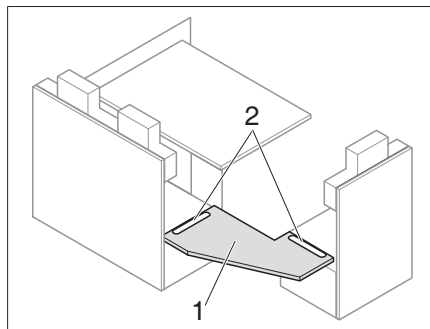
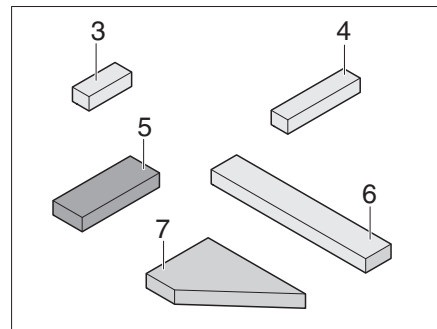
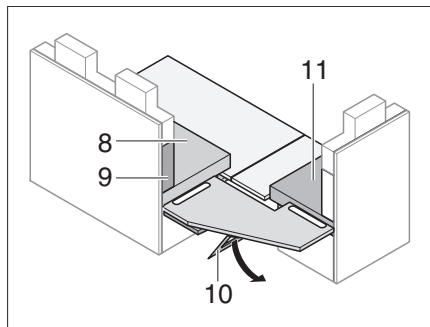
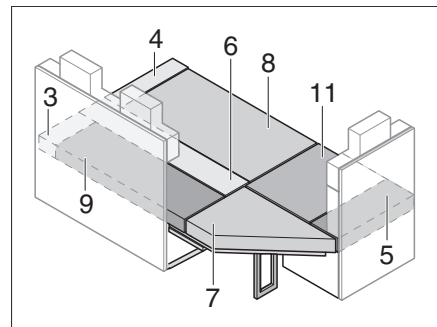

Fig. 185 Inserting the reinforcement panel
Fig. 186 Additional cushion
Fig. 187 Supporting reinforcement panel
Fig. 188 After conversion
- Insert the reinforcement panel (Fig. 185,1) into the grooves (Fig. 185,2).
- Fold out the support (Fig. 187,10) under the reinforcement panel (Fig. 185,1).
- Lay on the seat, backrest and additional cushions as shown in Fig. 188 (the item numbers refer to Fig. 186 and Fig. 187).
- Fold out the bench seat extensions (Fig. 185).